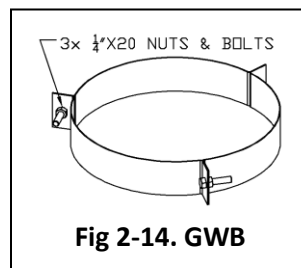

Fig 2-14. GWB
The Guy Wires Band permits easy connection for three (3) guy wires at 120 degrees apart. The band firmly clamps around the pipe outer jacket and includes three (3) 1/4" x 20 stainless steel nuts and bolts. See Fig 2-14.